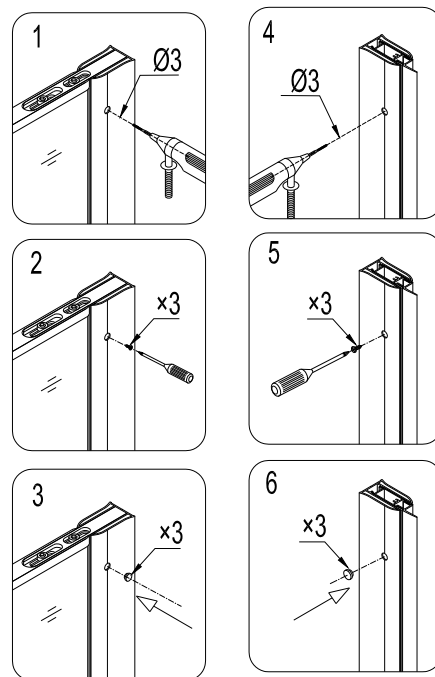

Fig 12
12. After adjusting with level, drill hole in the **Wall profile (6)** and **Glass profile (5)** and secure with **Round head screws ST4.2×10 (16)**. Cover screw locations with **Decorative cover (20)**. See Fig 12 for details.